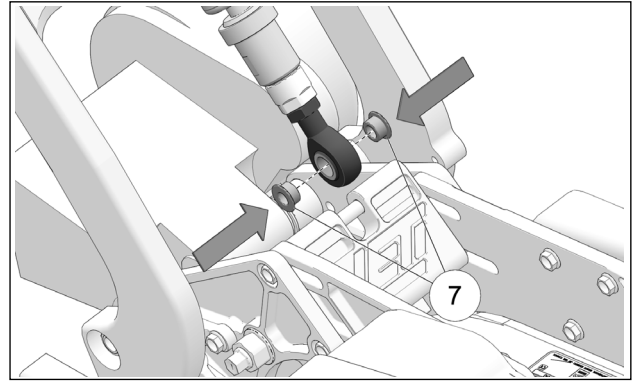

Figure 23
- Insert the 2 remaining spacer bushings (7) in the Soft Strut's rod end. See Figure 23.